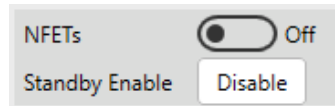

Figure 33: Simple Mode N-FET Control
1. Configure simple mode N-FET control (see Figure 33).